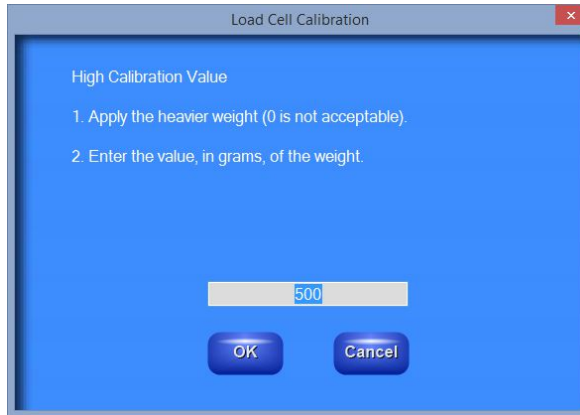

Figure 3 – Calibration Screens
2. Follow the on-screen instructions exactly. (See Figure 3 – Calibration Screens)